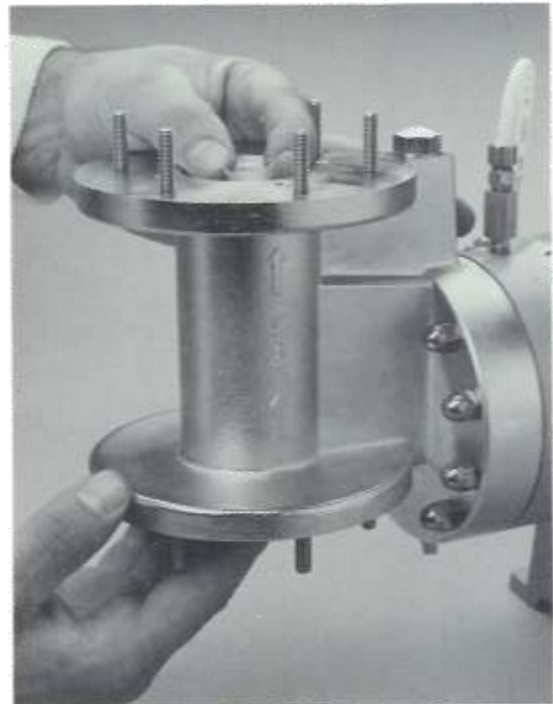

FIGURE 12.
21. Pick up the edge of the HYDRATUBE flange and bend it upwards so that it is even with the body of the tube (Figure 12). Avoid creasing the tube material.